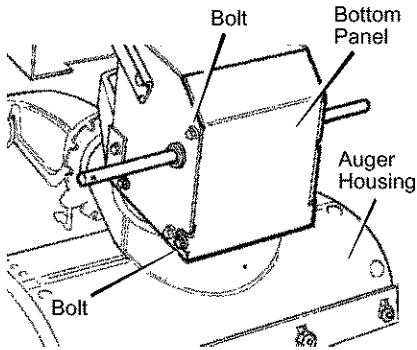

Figure 39
2. Loosen the **bolts** on each side of the **bottom panel** (see Figure 39).
13. Install the **bottom panel** (see Figure 39).